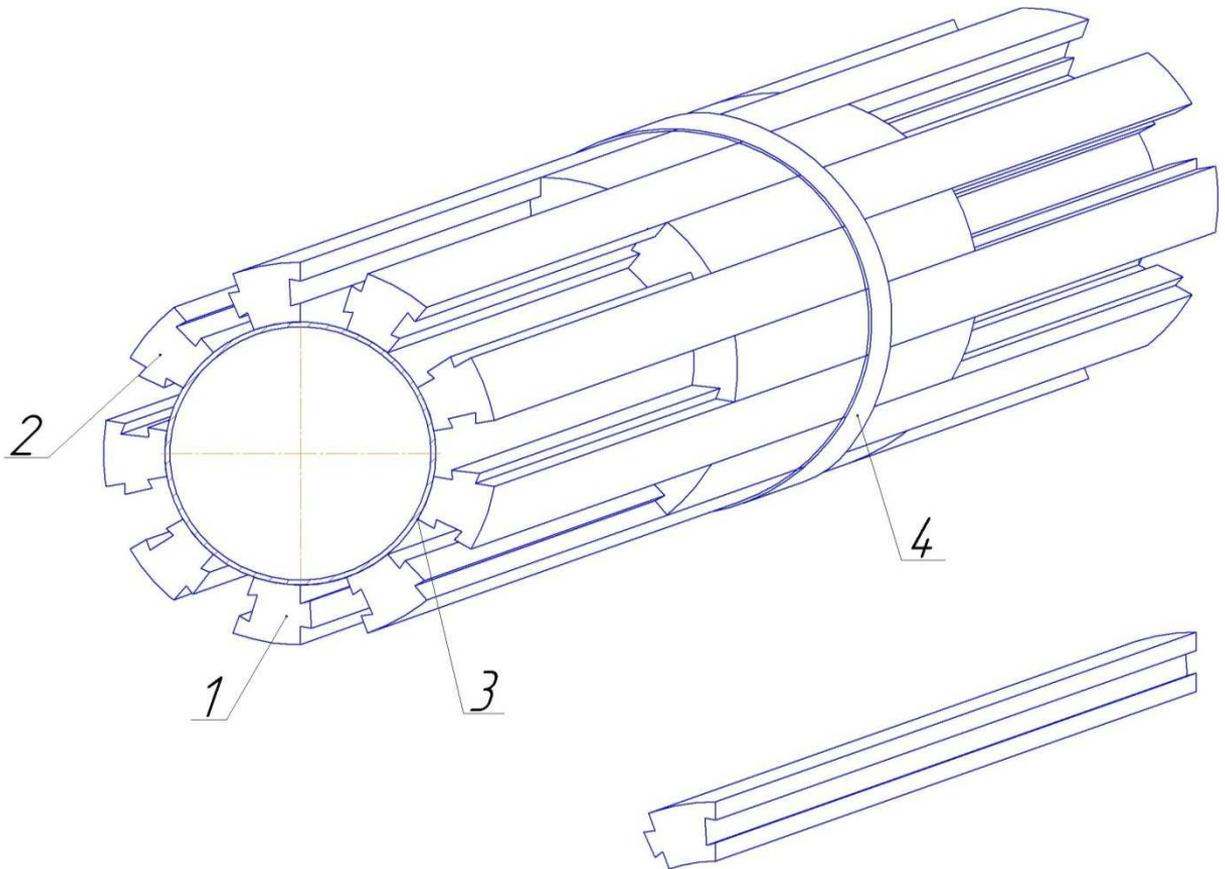

Fig.1
2.2. The assembly of segments is completed as following, see Figure 1.